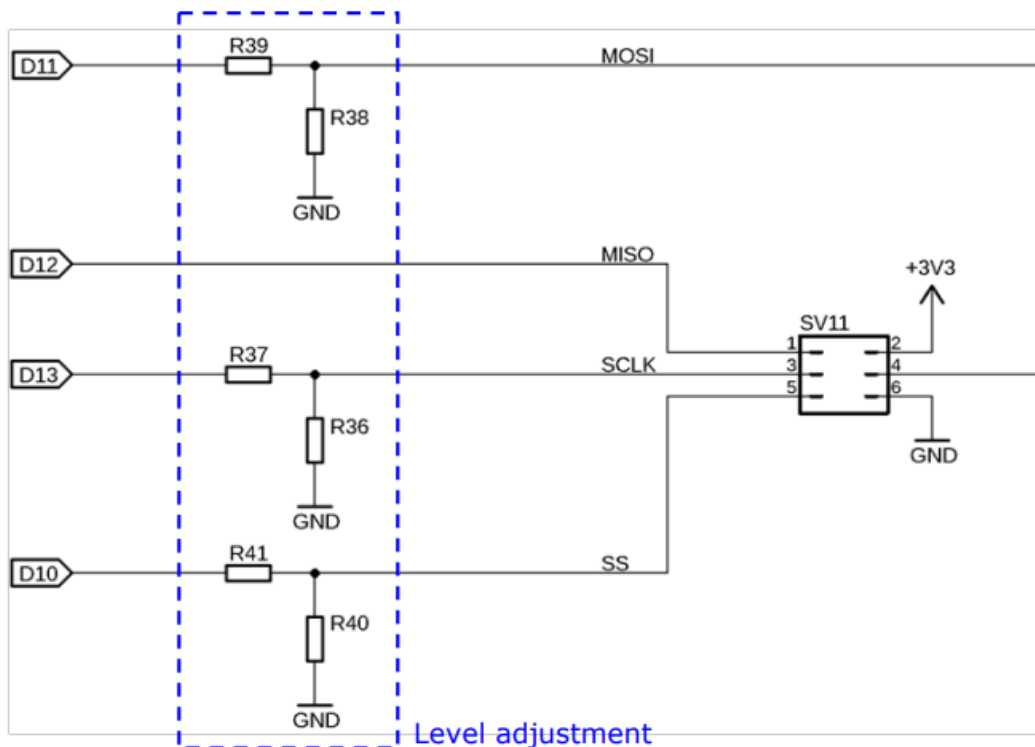
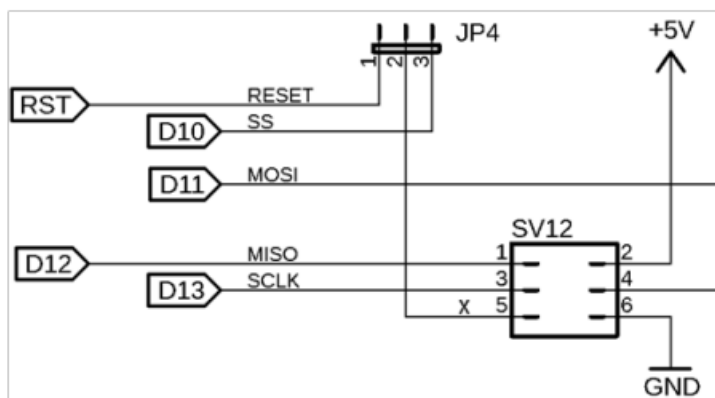

Figure 16: Pin assignment of SPI connector SV11
Figure 17: Pin assignment of SPI connector SV12
! If a jumper shorts pins 2 and 3 of header JP4 (see Figure 17 above), both SPI interfaces SV11 and SV12 use the same output pin D10 of the microcontroller as SS (Slave Select) line, as Figure 16 and Figure 17 show! Therefore, only one of the two connectors SV11 or SV12 may be connected to an SPI module at the same time, because the simultaneous use of the same SS line for different devices would lead to transmission errors and short circuits on the SPI lines! Section 4.12.3 shows a possibility how nevertheless two SPI slaves can be connected to SV11 and SV12 at the same time.
The connector SV11 (arrow (13) in Figure 1) enables the user to establish a serial SPI connection (SPI = Serial Peripheral Interface) between the MCCAB Training Board and an external SPI module with +3.3 V operating voltage, because the levels of the SPI output signals SS, MOSI and SCLK at interface SV11 are reduced to 3.3 V by voltage dividers. A 3.3 V level on the SPI input line MISO is recognized as HIGH signal by the AVR microcontroller ATmega328P and therefore does not have to be raised to 5 V level. The wiring of SV11 is shown in Figure 16.
The wiring of SV12 is shown in Figure 17.
Depending on the desired application, the connection X at pin 5 of SV12 (Figure 17) can be assigned with different signals:
If the pins 2 and 3 of pin header JP4 (see Figure 17 above and arrow (11) in Figure 1) are shorted by a jumper, the GPIO D10 (signal SS) of the microcontroller is connected to pin 5 of the connector SV12. SV12 is used then as a normal SPI interface with the SS (Slave Select) GPIO D10.